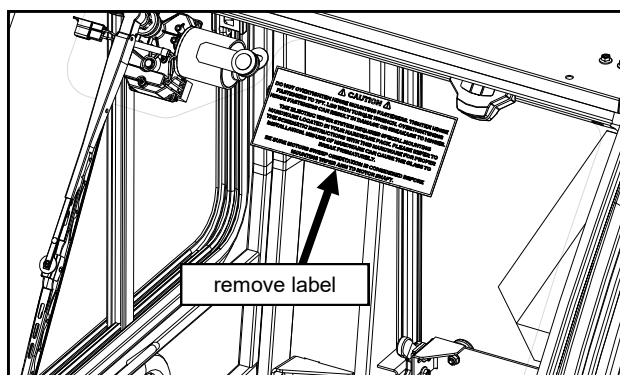

Fig. 21.2 (windshield caution label)
**21.2** Remove caution label from inside of windshield. See fig. 21.2.